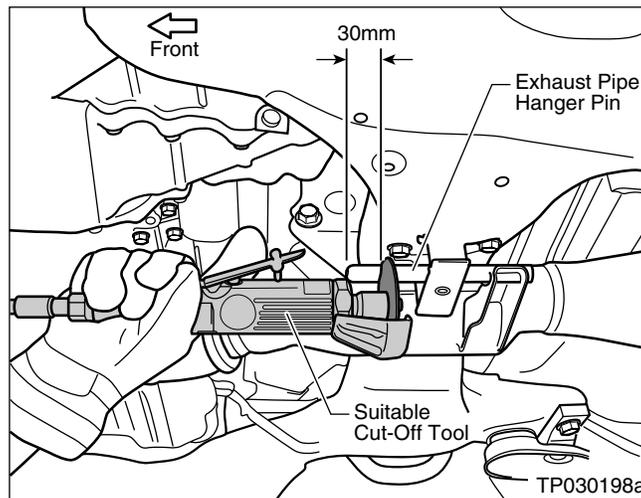

Figure F1
2. Mark a cut line on the Hanger Pin 30 mm from the forward end (front) of the pin (see Figure F1).
3. Use a 3" (or equivalent) air-powered cut-off wheel to cut the pin as shown in Figure F1 below.